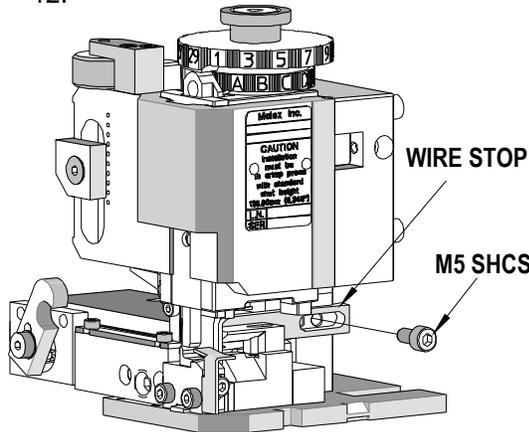

Figure 2-12
5. Use a 4mm hex wrench to loosen the M5 SHCS located on the side of the frame. See Figure 2-12.